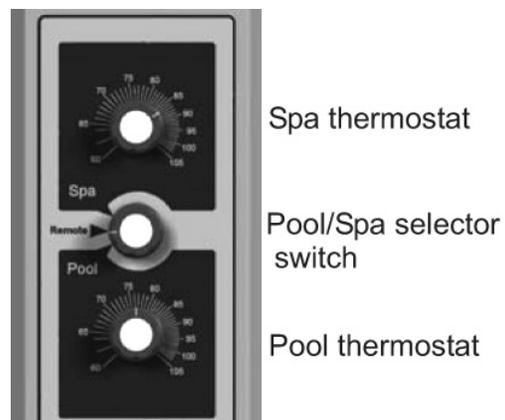

Figure 6. Selector Knobs — Analog Models
2. Verify that the control panel Spa-Remote-Pool switch is in the Remote (OFF) position; see **Figure 6**.